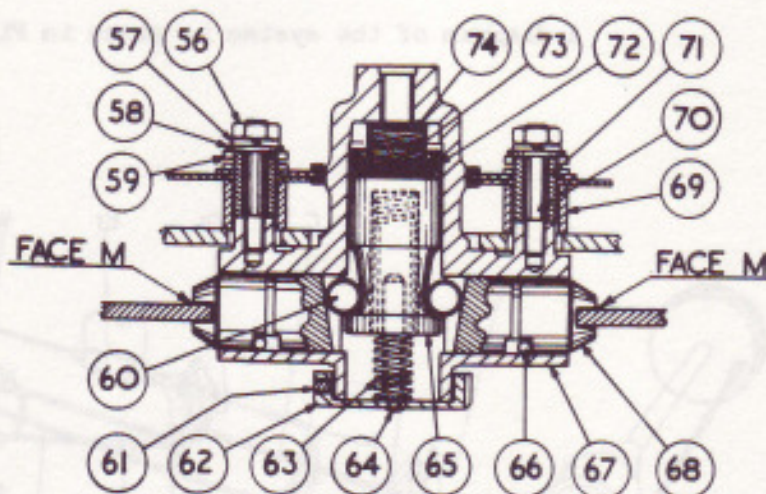

FIG.2. SECTION THROUGH FRONT EXPANDER.
The front brake shoes are operated by a hydraulic expander unit as shown in Fig.2. The expander cone (65) which is actuated by oil pressure on the rubber cup (72) causes the plungers (68) to move outwards. Hardened steel rollers (60) are interposed between the cone and the plungers to reduce friction to a minimum. The plungers engage directly with the brake shoe webs. On releasing the brake pedal and hence the oil pressure on the rubber cup, the spring (63) returns the expander cone to the "off" position. The whole expander mechanism is enclosed in a cast housing (67).
The method of adjustment is the same for both front and rear brakes, with the exception that a hand wheel (B Fig. 2) is provided on the rear brake adjuster, while a 5/8 B.S.F. open-ended spanner must be used on the adjuster of the front brake adjuster (A Fig. 2). The rear adjusters are located on the brake carrier plate forward of the axle tubes, and the front adjusters on the brake carrier plate directly below the steering pivot plate.